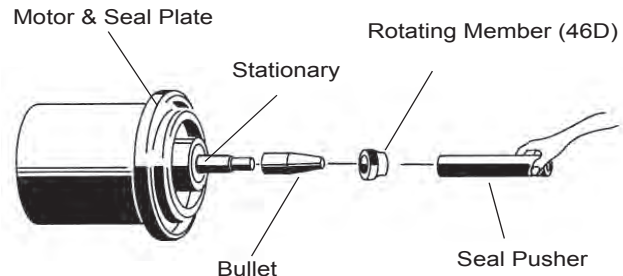

FIGURE 5
Slide retaining ring (46d) over shaft and let rest on bearing (47). Place spring (46c) over shaft and let rest on retaining ring (46d). Lightly oil (**DO NOT use grease**) shaft, bullet and inner surface of bellows on rotating member (46b), (see Figure 5), with lapped surface of rotating member (46b) facing outward, slide over bullet and onto shaft using seal pusher, making sure spring (46c) is seated in retaining ring (46d) and spring (46c) is lined up on rotating member (46b) and not cocked or resting on bellows tail.